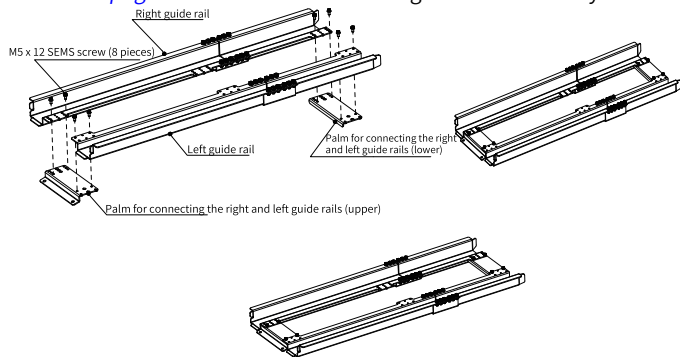

Figure 5-8 Making a guide rail assembly
a. "Figure 5-8 " on page 95 shows how to make a guide rail assembly.